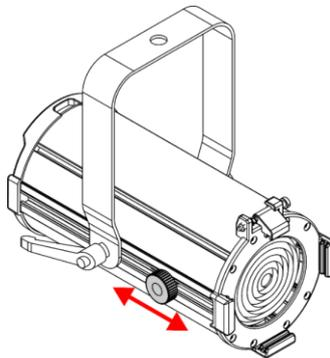

Fig. 06
- 01) Turn the **zoom control (05)** counterclockwise to loosen it.
- 02) Slide the **zoom control (05)** forwards or backwards to achieve the desired beam angle (see Fig. 06).
- 03) After adjusting the beam angle, turn the **zoom control (05)** clockwise to tighten it. Do not overtighten it.